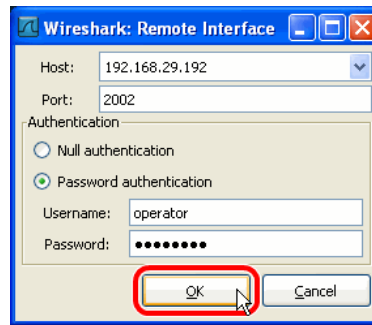

Figure 165: Wireshark Remote Interface Dialog.
4. Enter the correct settings for **Host** and **Port** (default 2002) and, if authentication is enabled, enter **Username** and **Password** in the corresponding fields as shown in Figure 165.